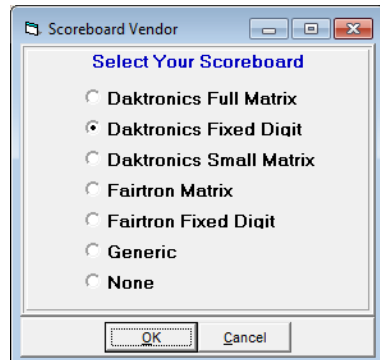

Figure 23: Scoreboard Vendor Selection
3. Go to **Interface > Setup > Scoreboard** (Figure 23).